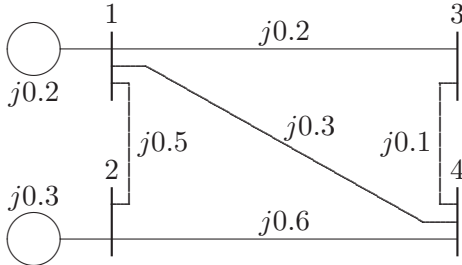

FIGURE 78
9.12. The per unit bus impedance matrix for the power system shown in Figure 78 is given by